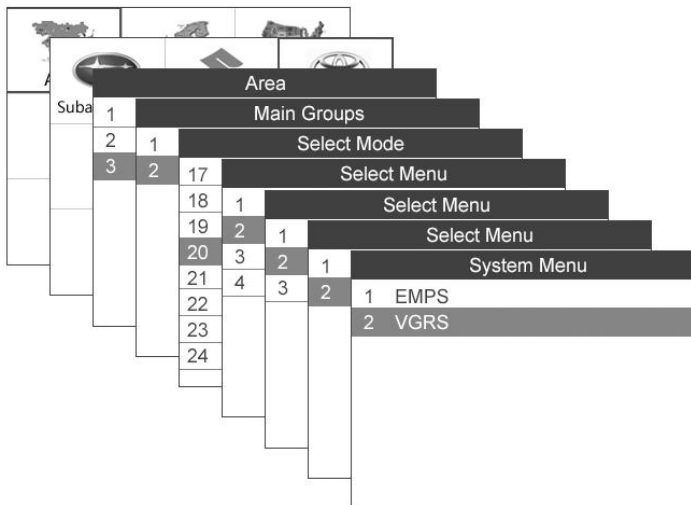

Figure 10.1
10. Wait for a series of vehicle identification screens appears for user to identify the vehicle. (Figure 10.1) On each screen that appears, use the **UP/DOWN** scroll button to select the correct option and then press the **OK** button. Do this until the vehicle is completely identified.